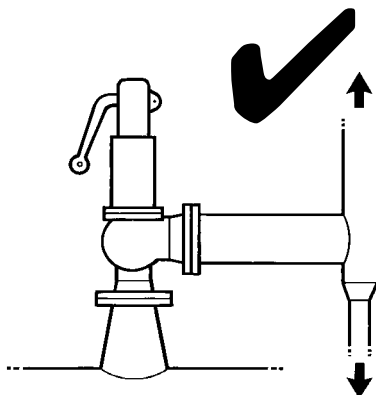

Fig 3
4.8 Where the outlet pipework is directed upwards a small bore drain should be provided at the lowest point. (Fig. 3) This drain should be taken to a place where any discharge will not create a hazard or inconvenience.